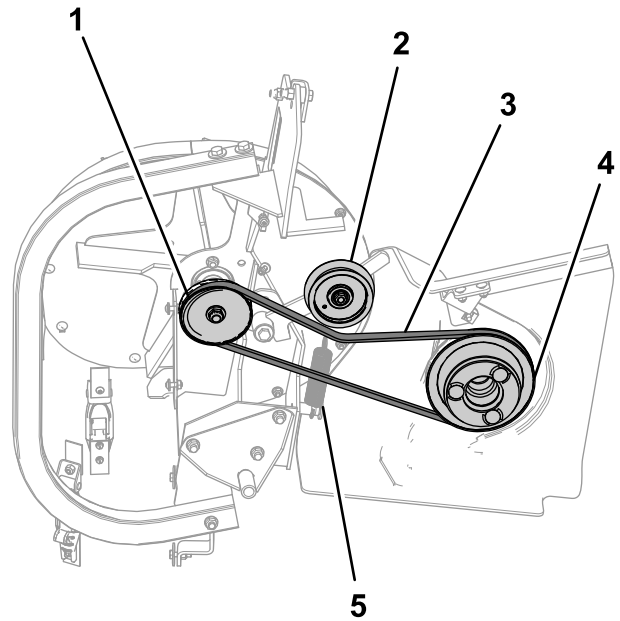

Figure 48
3. Loosen or remove belt guide (Figure 48).
4. Pull back on the spring-loaded idler pulley to relieve the belt tension (Figure 48).
6. Install the new belt around the blower pulley (Figure 48).
7. Tighten or install the belt guide (Figure 48).